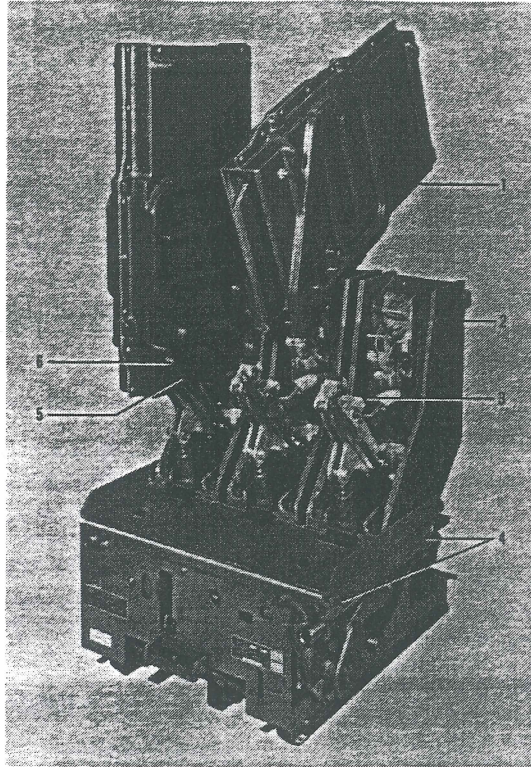
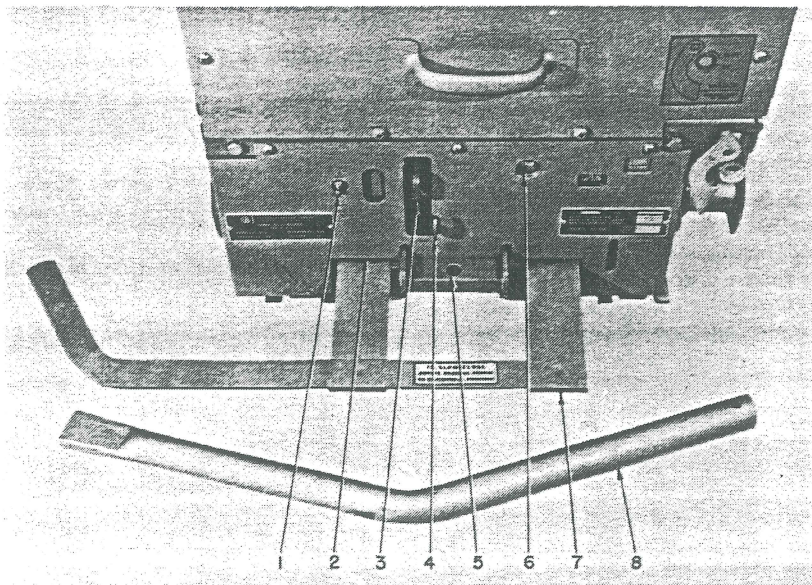

Fig. 1 — View Showing Arc Chute and Contact Structure
Fig. 2 — Front View of Control Panel
If it is necessary to raise or move the breaker, attach a lifting yoke at points 4 (Fig. 1) or a fifth wheel at point 5 (Fig. 2) to transport the breaker as required.
**REMOVING ARC CHUTES (See Fig. 1)**
**MANUAL SLOW CLOSE TO CHECK CONTACT PRESSURE (See Fig. 2)**
**INSTALLING ARC CHUTES (See Fig. 1)**
For 5HK75, 150 and 250, lift barrier and slide it approximately halfway on the breaker. Then, after aligning the vertical sheets of the barrier properly between the lead support moldings and inside the clips on the outside moldings, slide the barrier as far to the rear as possible. Lift the barrier slightly by its handle at the lower front (Fig. 2) to permit the rear brace of the barrier to drop down behind the arc chutes. Then, push firmly down and back on the barrier handle to properly position the interphase barrier in place. Secure the barrier in place with the two lower front sheet screws.
**INSTALLING CIRCUIT BREAKER INTO COMPARTMENT (See Figs. 2 & 3)**
Turn motor disconnect switch (if supplied) (1, Fig. 2) to "OFF" position.
Engage the fifth wheel with hole (5, Fig. 2); guide and push circuit breaker into compartment until stopped. (If closing springs were left in charged condition, they will automatically discharge.) Again engage racking crank and rotate clockwise until racking mechanism automatically stops at "DISCONNECT" position. (Breaker is now held captive in compartment.)
With the circuit breaker racked to "TEST" position, it should be checked for proper operation by operating all possible means of opening and closing, this includes control switches, relays, etc. Turn motor disconnect switch (1, Fig. 2) to "ON" position to charge the closing springs, and operate the breaker as required. (If motor disconnect switch (1, Fig. 2) is not provided, springs will automatically charge when approaching "TEST" position.)
A degree of burning and pitting on the circuit breaker arcing contacts is to be expected from normal operation; also, on highly inductive or capacitive circuits and after major interruptions, some pitting may occur on the main contacts. A moderate amount of pitting will not interfere with the operation of the contacts. When necessary to dress the contacts, cover the puffer nozzle (3, Fig. 1) with a cloth, then follow the contour of the contacts with a fine file. Do not attempt to eliminate pitting entirely. After this maintenance, the contact pressure and millivolt drop should be checked.
3. Advance the adjustment of the lagging pole or poles so that the three arcing contacts touch simultaneously within 1/32". This adjustment is made by loosening locking bolt or set screw (depending on model) (2) and rotating adjusting stud (3).
6. Tighten the locking bolt (2) on each adjusting stud (3) to lock the contact pressure adjustment stud in place.
**PUFFERS (3, Fig. 1)**